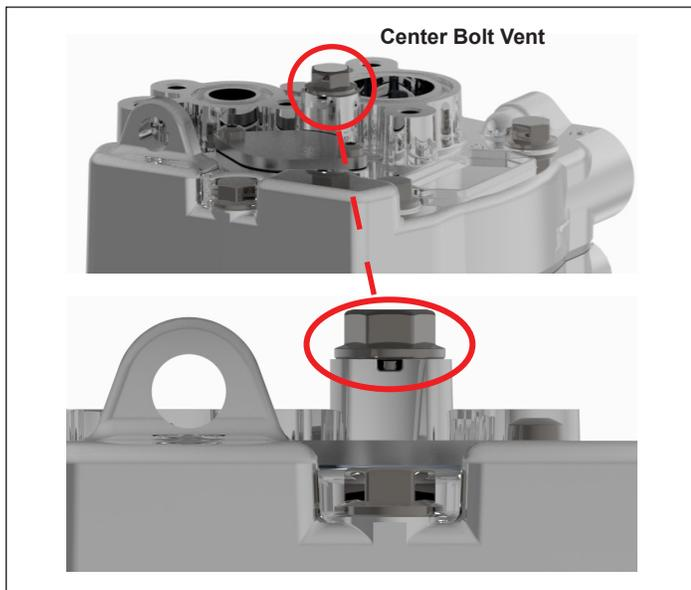

Figure 9 – Center Bolt Vent
3. Using shop air, pressurize the unloader port of the compressor. With the unloader port pressurized, listen for an audible leak near the center bolt of the compressor. Check for leakage at the unloader port. If leakage is present, replace leaking or worn o-rings. See *Figure 9*.